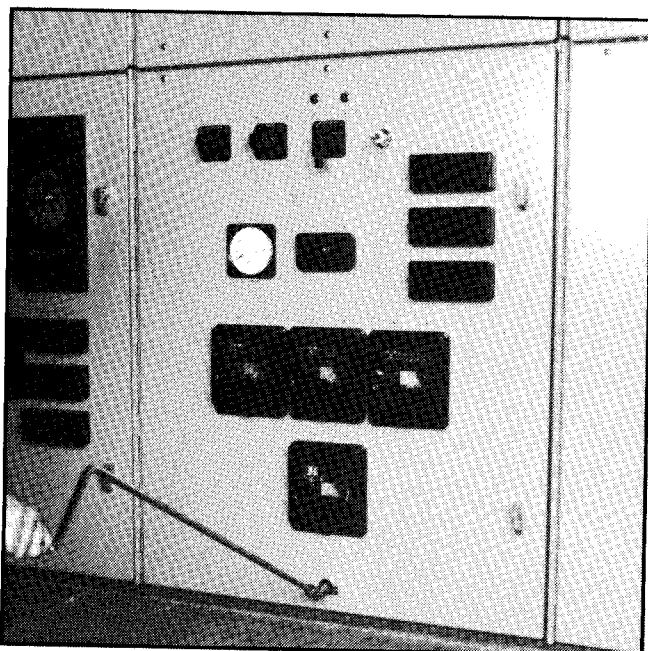

Figure 3. Racking Circuit Breaker in Switchgear.
1. Push the racking interlock latch in and insert the racking crank on the racking screw on the floor of the breaker cell as shown in **Figure 3**.
2. Push the racking interlock in and insert the racking crank on the racking screw into the upper breaker in a manner similar to the step shown in **Figure 3**.